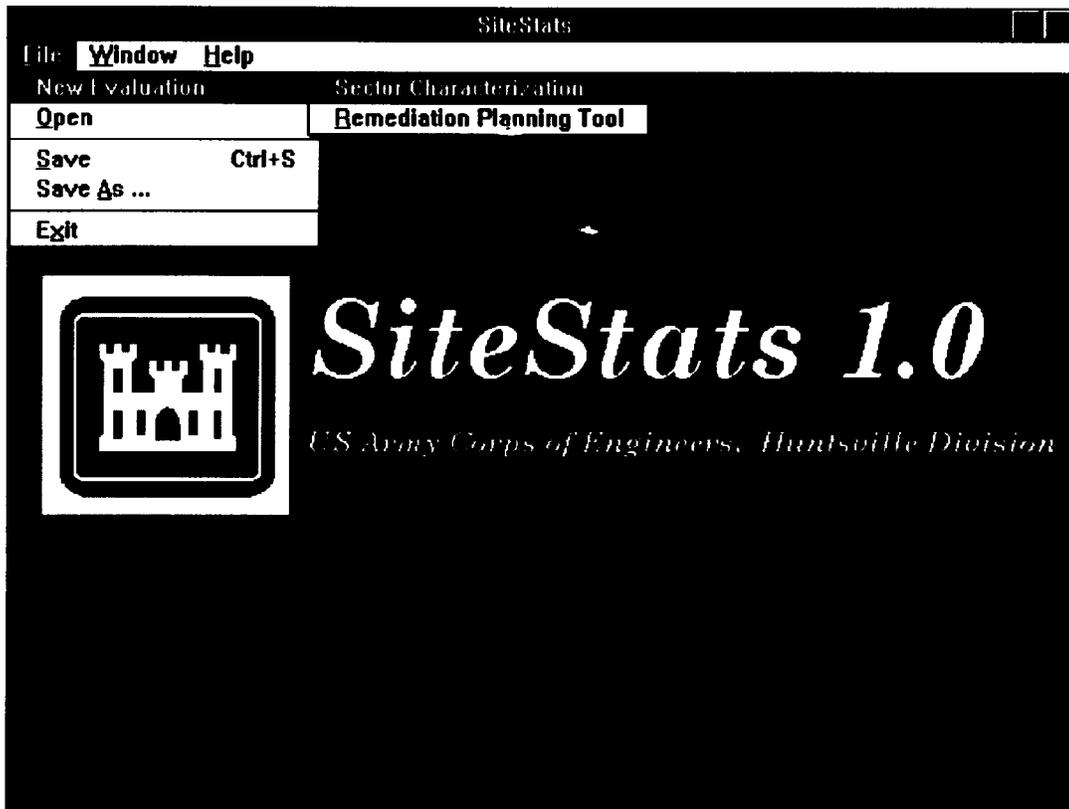

Figure 3.5-1. File Menu
- \* Choose **New Evaluation** from the **File** menu, see Figure 3.5-1.